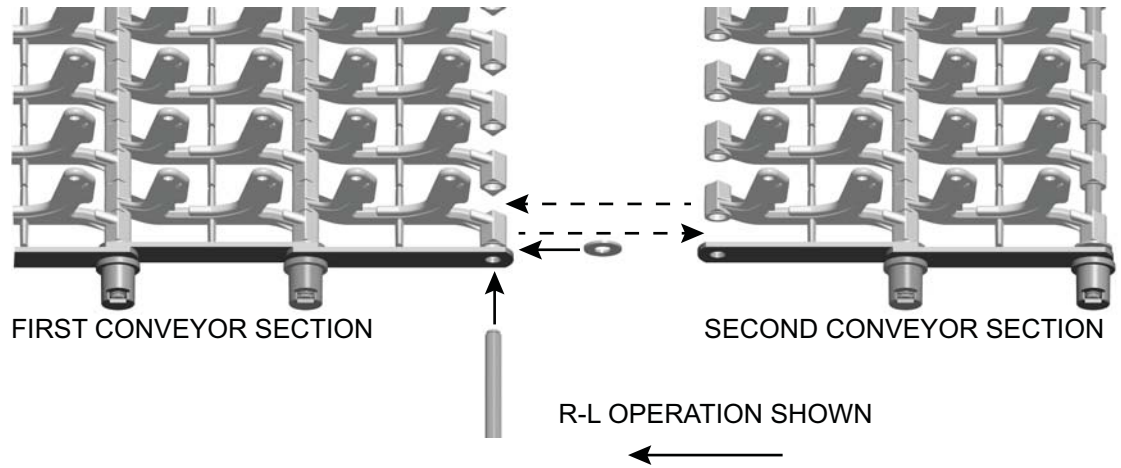

Fig. 36
- Remove the conveyor roller from one end of the last conveyor rod on the first section. Then pull the conveyor rod out and save the roller and washers for re-assembly. To join the sections, thread the rod back through the side bars and washer and then through the flight links, alternating the links from the first and second sections, and then through the washer and side bars on the opposite side. Complete the assembly by attaching the conveyor roller with a new retaining ring (Figs. 36 & 37). Spin the roller to ensure that the retaining ring has been secured to the conveyor rod. Always use a new retaining ring to secure a tight grip on the conveyor rod. Repeat this step for joining each succeeding conveyor section.